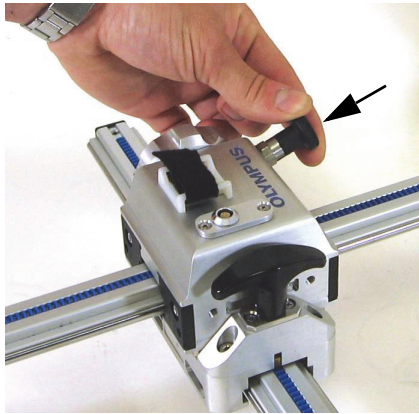

Figure 3-1 Knob engages inwards to lock the X-axis
3. Lock the X-axis by using the locking device (see Figure 3-1 on page 60).